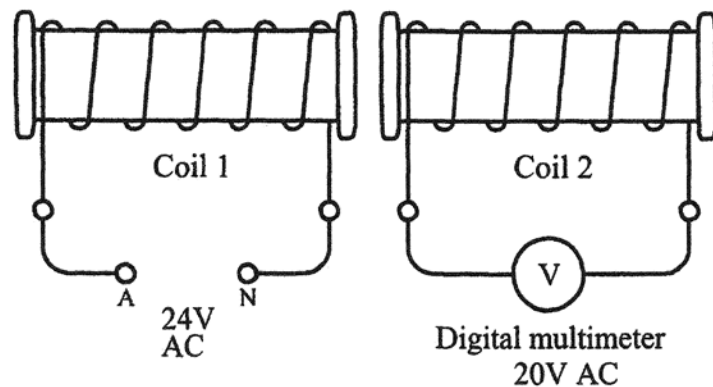

Figure 3
1. Connect the circuit as shown in Figure 3. **Do not** insert a soft iron core.